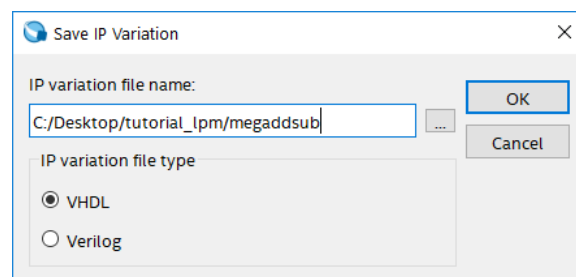

Figure 5. Create an LPM from the available library.
3. In the pop-up box shown in Figure 5, choose VHDL as the type of output file that should be created. The output file must be given a name; choose the name *megaddsub.vhd* and indicate that the file should be placed in the directory *tutorial\_lpm* as shown in the figure. Press OK.